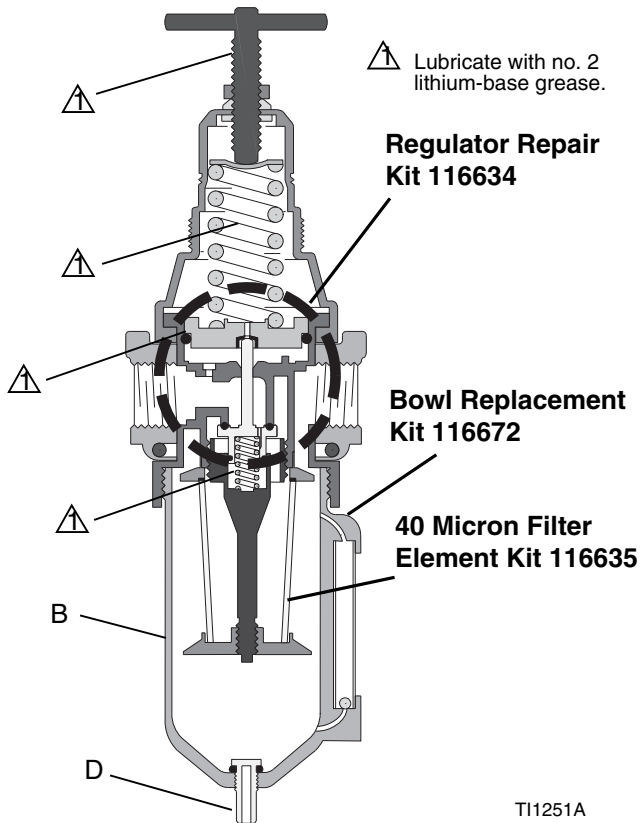

FIG. 1: 116521, 17C498 Repair Kits
Every day, drain contaminants from the bowl before reaching the baffle level by opening the drain (D) at the bottom of the bowl (B). See FIG. 1.
Lubricate the bearing area, all o-rings, adjusting screw threads, and spring ends with no. 2 lithium-base grease. See. FIG. 1. Reassemble the regulator.